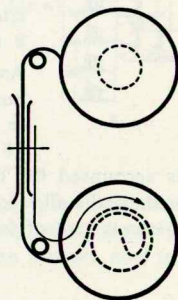

Fig. 5.
6. Introduce the film into the gate (fig. 5), following the direction of the arrow.